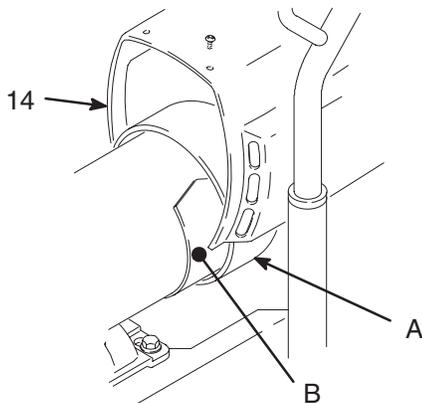

Fig. 3
3. Fig. 3. Remove motor shield (14). Remove inspection covers (B) and gaskets on each side of motor.